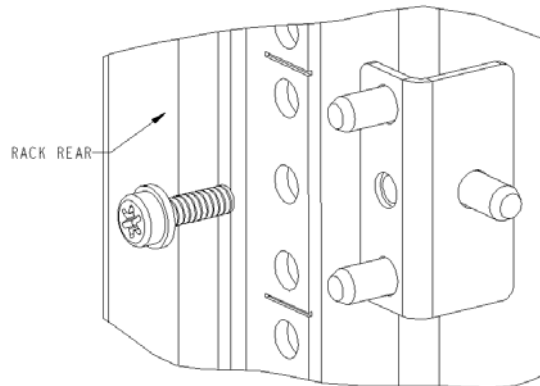

Figure 2. Installing the Rear Rail-Tray Brackets (HP Rack-left rear upright)
- For an HP rack, install each of the two mounting brackets with (1) M5 Torx head screw with captive lock washers as shown in Figure 2.